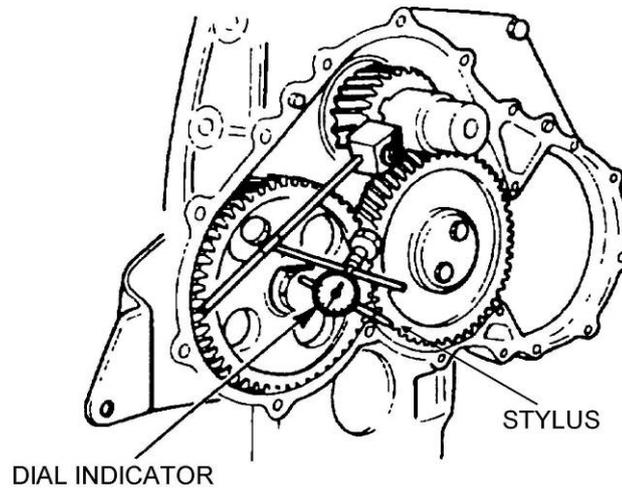

Figure 16 Checking the Timing Gear Backlash
- ii. Using a dial indicator check the backlash between the crankshaft, idle and camshaft gears (Figure 16). The standard backlash is 0.10 to 0.30 mm (0.004 to 0.012 in).